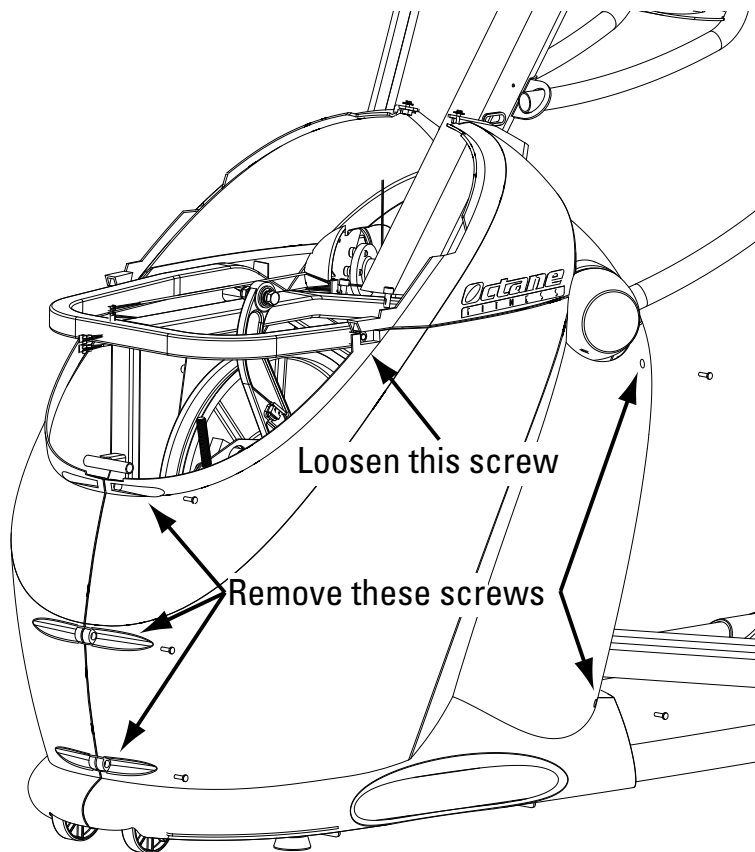
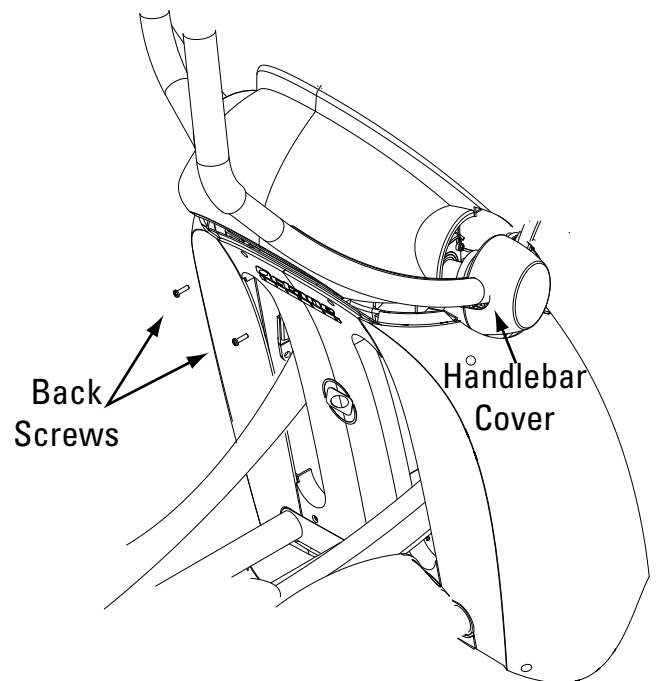

Figure 1.1
Figure 1.2
1. Remove the mast boot by pulling the two sides apart at the seam, then use a Phillips screwdriver to remove the two (2) screws with washers securing the top cover. Grasp the front edge of the cover and remove it.
2. Use a Phillips screwdriver to remove the five (5) screws securing the left side shroud. Loosen the screw at the tab where the side shroud and access panel meet, then grasp the side shroud at the bottom and remove it (Figure 1.1).
3. Remove the two (2) screws at the back of the right side shroud. Loosen the screw at the tab where the right side shroud and the access panel meet, then grasp the shroud at the bottom and remove it.
4. Remove the two handle bar covers and the two (2) Phillips screws on the back (user side) of the access panel (Figure 1.2). Grasp the back of the access panel and pull it off of the frame, then flex and turn the access panel as necessary to maneuver it around the mast and remove it.